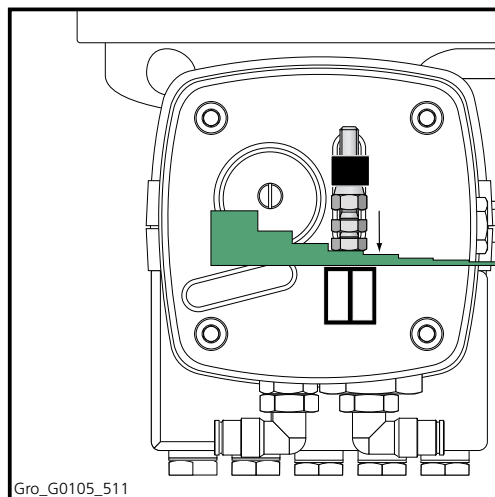

Figure 5.12 Setting the desired number of brake commands
4. Use the gauge and two open-ended spanners (10 mm) to set the desired number of brake commands (Figure 5.12).